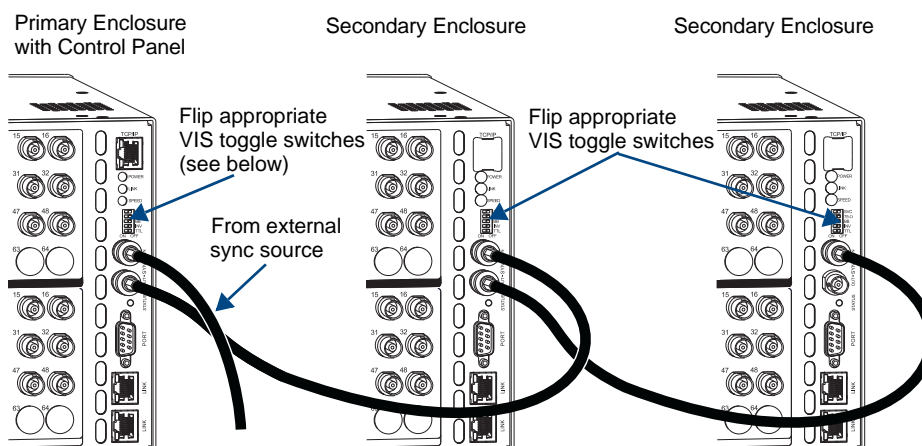

FIG. 24 Sync signal routed to multiple enclosures
1. Attach a cable from the external sync source to the primary enclosure’s Sync In connector (FIG. 24) on the right rear. (The primary enclosure is the one with the control panel.)
2. Attach a cable to the Sync Out connector on the primary enclosure (FIG. 24).